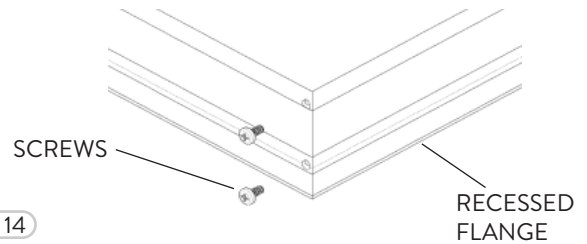

FIG. 14
- 1 Start off by assembling the Recessed Flanges together by fastening the Screws to the corners of the Recessed Flanges (Fig. 14).